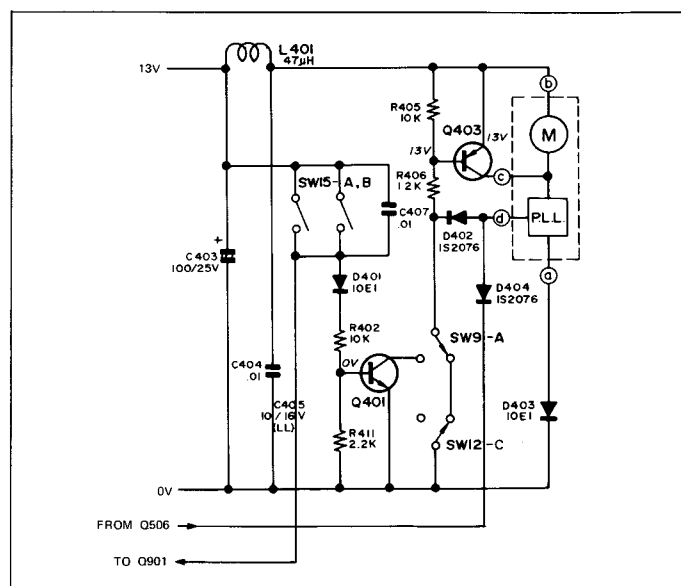

Figure 20
■ MOTOR CONTROL CIRCUIT(See Figure 20 and 23)